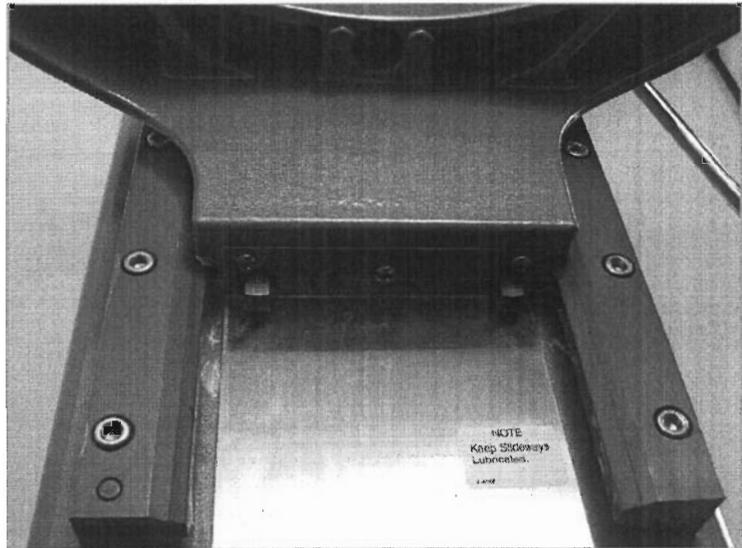

Fig. 8
Install a bowl and agitator (e.g., beater). If the bowl and beater come into contact before the bowl support reaches its stop, adjust the stop screw. Refer to Adjust the Bowl/Agitator Clearance, Figure 8.
- Turn the stop screws counterclockwise to decrease the clearance or clockwise to increase the clearance. (Fig. 8)